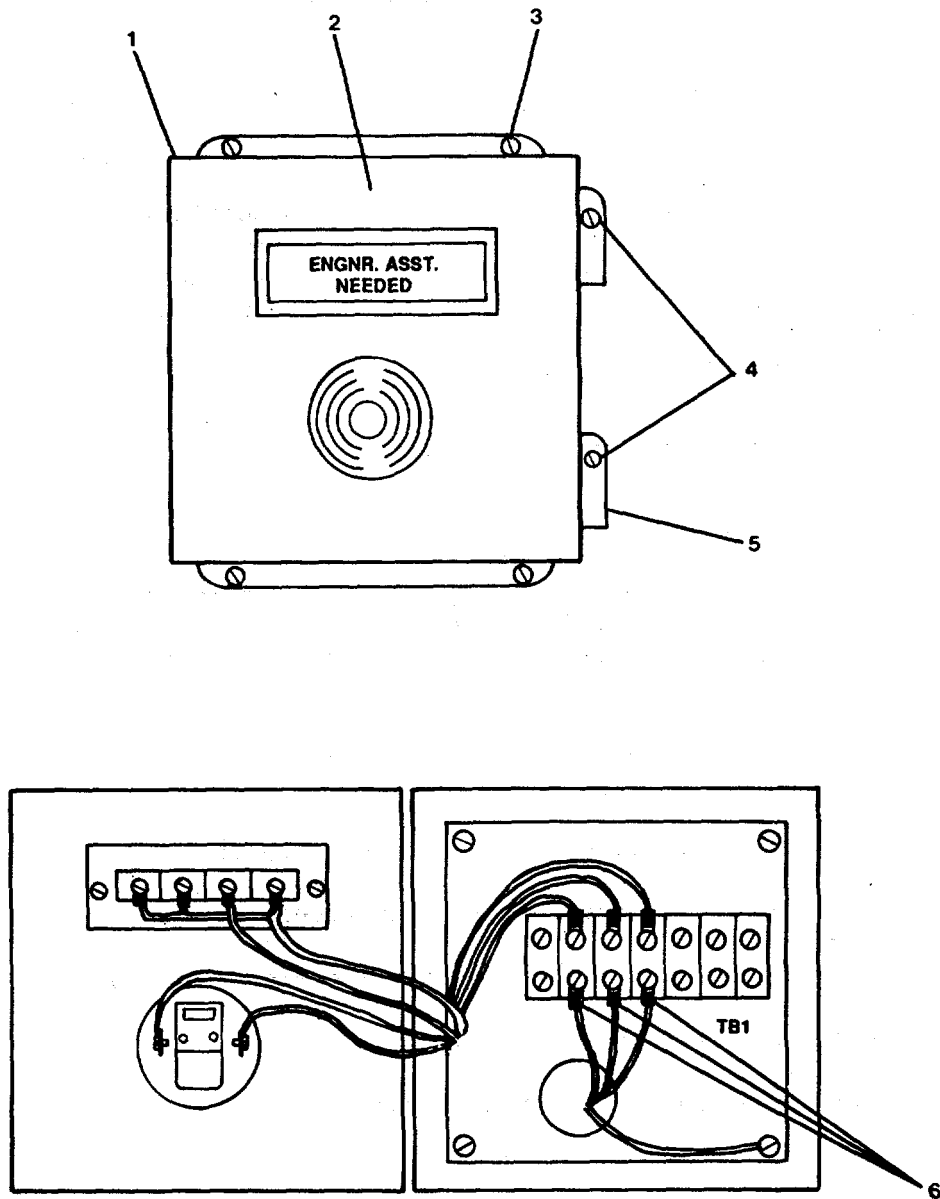

FIGURE 3-112. *Annunciator (Engineer's Quarters and Galley).*
- b. Remove tag and connect electrical power cable (15) to pressure switch (14).
- c. Remove tag and connect electrical power cable (13) to liquid level switch (12).
- d. Remove tag and connect electrical power cable (11) to pressure switch (10).
- e. Remove tag and connect electrical power cable (8) to liquid level switch (9).
- f. Remove tag and connect electrical power cable (6) to solid state switch (7).
- g. Remove tag and connect electrical power cable (4) to liquid level switch (5).
- h. Install port engine remote module (20).
- j. Close cover (2) on enclosure (3) and tighten captive screws (1).
**3-125. Replace/Repair Annunciator (Engineer's Quarters and Galley). (Figure 3-112)**